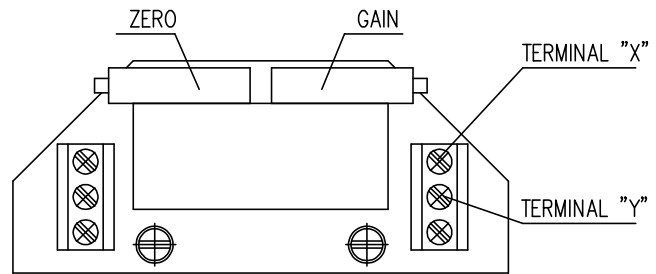

Fig.8
3.4.1 EPV – 3-wire version (Fig. 8, 8a)
- Adjust the resistive transmitter according to the previous chapter. The resistance is to be metered on the terminals X-Y, resp. 0%-100% (Fig. 8, 8a). The used transmitter resistance is 2000 W resp. 100 W.